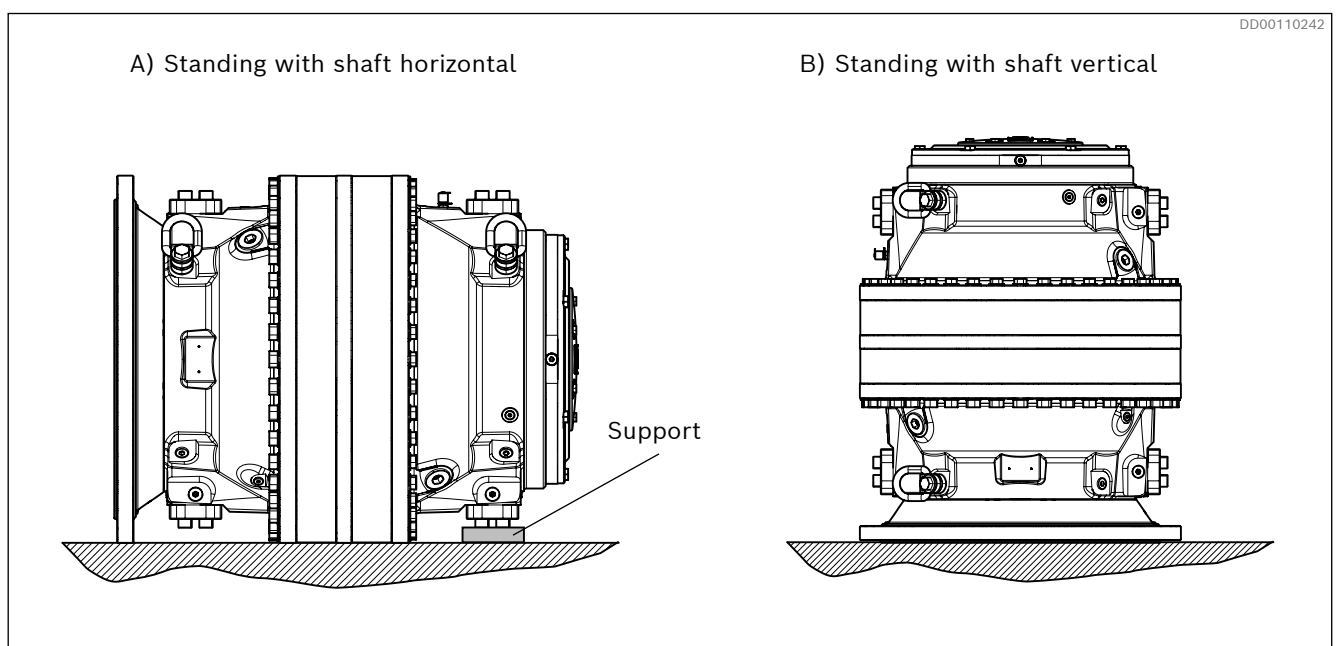

Fig. 11: Example, CBp motor standing on a flat surface
- ▶ It is also advisable to provide supports at the mounting surface of the motor, see Fig. 11.
When the motor is placed on a flat surface such as a floor, it must stand either on its outer diameter or on the suitably protected end face of the hollow shaft. It is also advisable to provide supports shown in Fig. 11.
1. Place the motor as shown in Fig. 11, B) Standing with shaft vertical.
5. Position the motor as shown in Fig. 11, A) Standing with shaft horizontal or alt. B) Standing with shaft vertical.